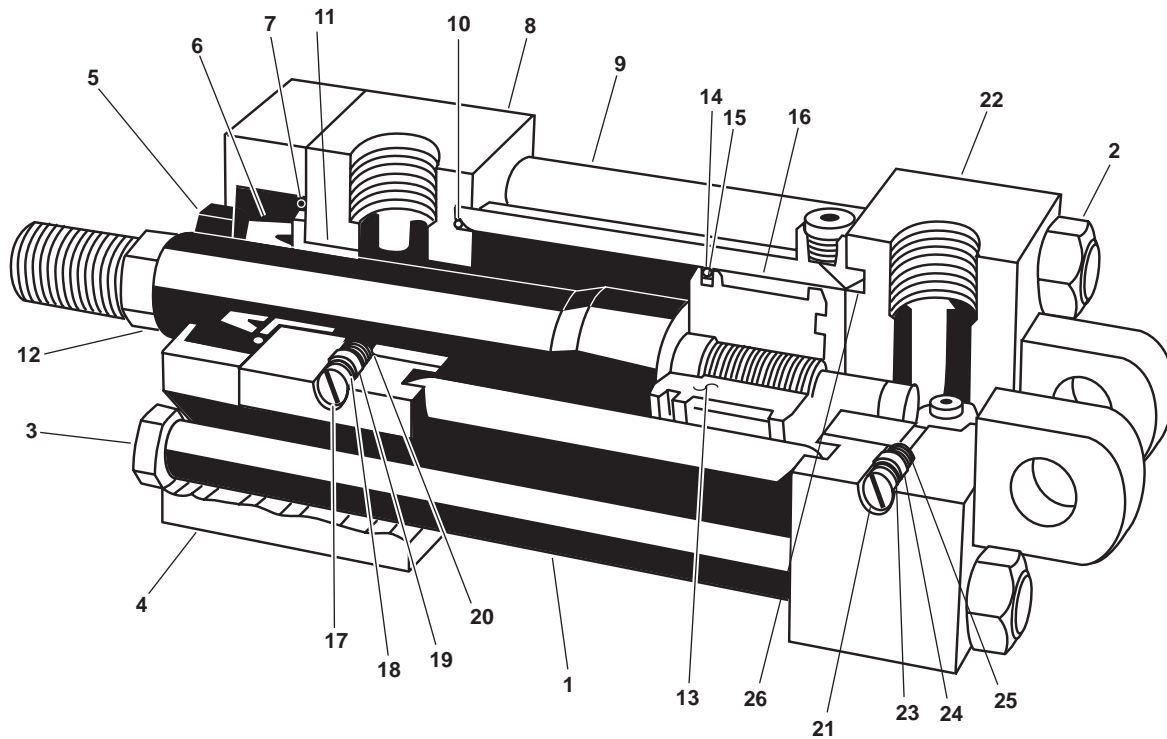

Figure 1. Tow Pin Cylinder
1. Place a suitable drain pan under the tow pin cylinder (figure 1, item 1).
2. Remove the four nuts (figure 1, item 2) and the four bolts (figure 1, item 3) from the tow pin cylinder (figure 1, item 1).
3. Remove the rod gland retainer (figure 1, item 4) from the tow pin cylinder (figure 1, item 1).
4. Remove the rod wiper (figure 1, item 5) from the rod gland retainer (figure 1, item 4). Discard the rod wiper.
5. Remove the rod seal (figure 1, item 6) from the rod gland retainer (figure 1, item 4). Discard the rod seal.
6. Remove the rod gland seal (figure 1, item 7) from the rod gland retainer (figure 1, item 4). Discard the rod gland seal.
7. Remove the head (figure 1, item 8) from the tube (figure 1, item 9).
8. Remove the tube seal (figure 1, item 10) from the tube (figure 1, item 9). Discard the seal.
9. Remove the rod bearing (figure 1, item 11) from the head (figure 1, item 8). Discard the rod bearing.
10. Remove the piston rod (figure 1, item 12) and piston (figure 1, item 13) from the tube (figure 1, item 9).
11. Remove the piston seal (figure 1, item 14) and the piston seal expander (figure 1, item 15) from the piston (figure 1, item 13). Discard the piston seal and the piston seal expander.
12. Remove the piston bearing strip (figure 1, item 16) from the piston (figure 1, item 13). Discard the piston bearing strip.
13. Remove the front cushion adjustment screw (figure 1, item 17) from the head (figure 1, item 8).
14. Remove the backup washer (figure 1, item 18) from the front cushion adjustment screw (figure 1, item 17). Discard the backup washer.
15. Remove the seal (figure 1, item 19) from the front cushion adjustment screw (figure 1, item 17). Discard the seal.
16. Remove the check ball (figure 1, item 20) from the head (figure 1, item 8).
17. Remove the rear cushion adjustment screw (figure 1, item 21) from the cap (figure 1, item 22).
18. Remove the backup washer (figure 1, item 23) from the rear cushion adjustment screw (figure 1, item 21). Discard the backup washer.
19. Remove the seal (figure 1, item 24) from the rear cushion adjustment screw (figure 1, item 21). Discard the seal.
20. Remove the check ball (figure 1, item 25) from the cap (figure 1, item 22).
21. Remove the cap (figure 1, item 22) from the tube (figure 1, item 9).
22. Remove the tube seal (figure 1, item 26) from the cap (figure 1, item 22). Discard the tube seal.